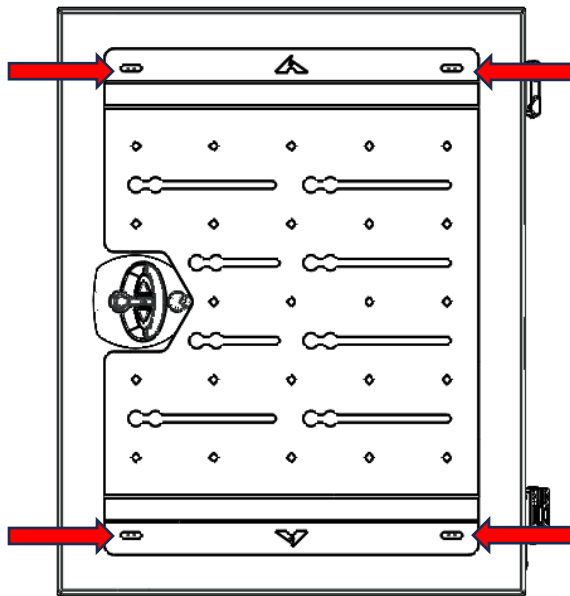

Figure 4: Front Loader Bolt-on Locations
9. Remove the front loader plate from the inside of the box. Reattach the front loader, using the four 5/16" -18 x 1" Carriage bolts (70454), four 5/16" -18 Nylock nuts (70019), and eight 5/16" washers (70020), to the front of the box, as shown in the figure 4 below: